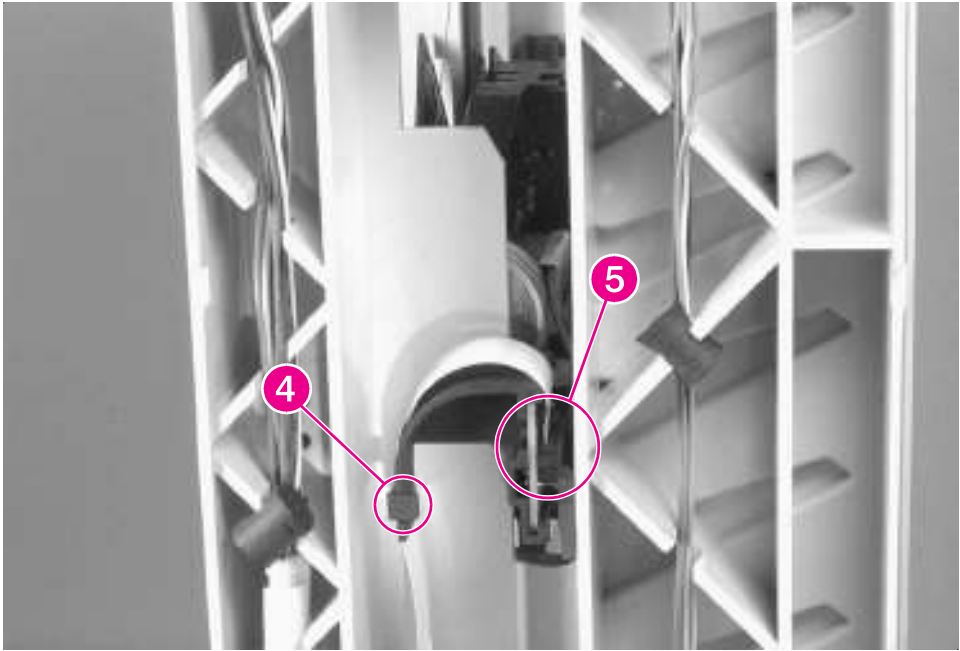

Figure 6-169 8-bin Mailbox Delivery Head Assembly (3 of 4)
- 6 On the back side of the 8-bin Mailbox, release the flat ribbon cable from the cable clip that secures the cable to the 8-bin Mailbox frame (Figure 6-169, callout 4), and gently disconnect the flat ribbon cable from the Delivery Head Assembly (callout 5).
- 5** Reconnect the flat ribbon cable to the Delivery Head Assembly, and secure the cable to the frame with the cable clip (Figure 6-169, callouts 4 and 5).